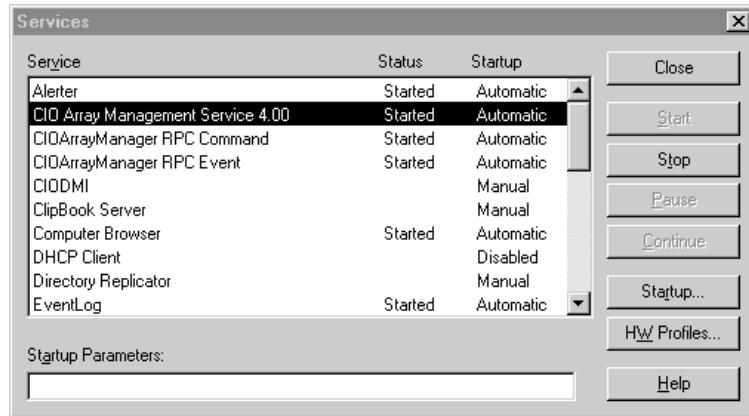
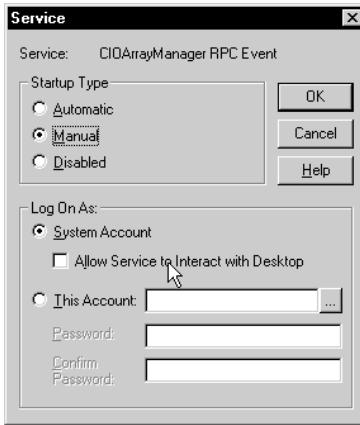

Figure 2-11. Services
Figure 2-12. Service Window
- 4** Highlight the CI/O Array Management Service 4.00 and click **Stop**, as shown in Figure 2-11.
- 4 Highlight **CIO Array Management Service 4.00** (see Figure 2-11) and double-click. The Service window will display as shown in Figure 2-12.